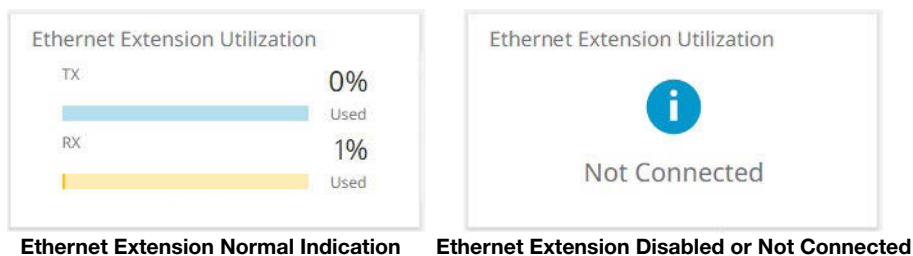

Figure 40. Ethernet Extension Utilization Pane Indications
The **Ethernet Extension Utilization** pane (see figure 38, ⑥) indicates the total bandwidth usage of the rear panel Extension port (see figure 2, ④ on page 5) at that moment. The encoder generates an alarm if the utilization goes above 90%. The alarm clears automatically once the level drops below 90%. Figure 40 shows the normal indication and if the Extension port is either **disabled** (see Network Connection on page 49) or **enabled** with no device connected to it.